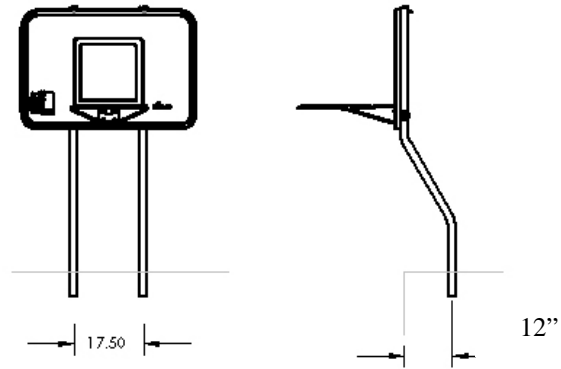

Figure 5
7. Basketball units are to be anchored to the deck using 6 inch deep AS-100P anchor sockets. Install the anchors in the pool deck 17-1/2 inches apart on center and 12 inches back from the pool's edge, shown in **FIGURE 5**. Properly bond the anchor sockets using the attached bonding screw and the appropriate bond wire per local codes. Allow concrete to cure before installing the Basketball unit.